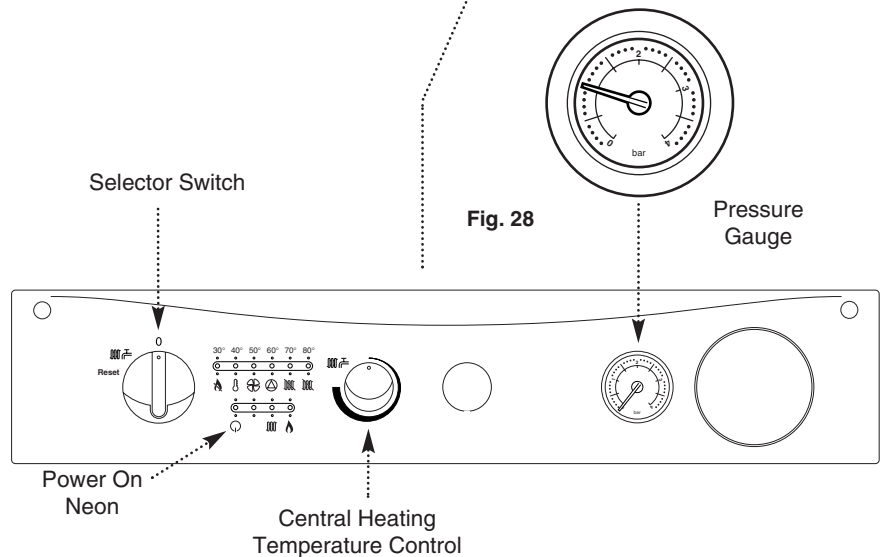

Fig. 29
8. If at any time during commissioning it is required to terminate a particular cycle, e.g. the pump overrun period, turn the selector to the Off position and then back to the On position (  ) (Fig. 29).